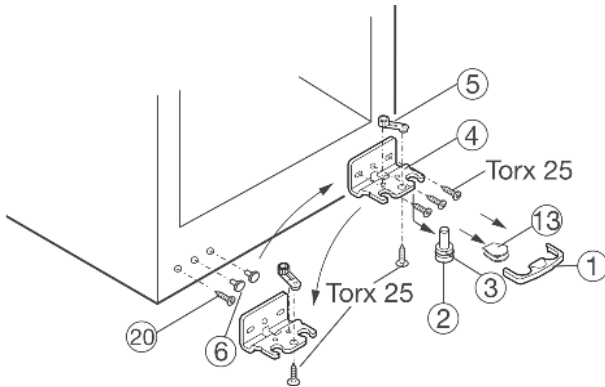

Fig. 4
- ▶ Draw safety lock Fig. 4 (1) forwards for removal.
- ▶ Remove the cover Fig. 4 (13).*
- ▶ Pull out the bearing pin Fig. 4 (2) downwards and forwards. In so doing, pay attention to the hinge bush Fig. 4 (3).
- ▶ Unscrew the turn hinge Fig. 4 (4).
- ▶ Unscrew the bearing part Fig. 4 (5), transfer it to the opposite hole in the turn hinge and screw it down again.
- ▶ Carefully lift out the plugs Fig. 4 (6) and insert them into the opposite side.
- ▶ Unscrew the screw Fig. 4 (20) and insert it into the opposite side.
- ▶ Screw the bearing bracket Fig. 4 (4) onto the new hinge side **tightly (4 Nm)** or retighten with the aid of a cordless screwdriver if necessary.
- ▶ Slightly tip the appliance backwards again and reinsert the bearing pin Fig. 4 (2) together with the hinge bush Fig. 4 (3). The notch on the bearing pin must face forward.
- ▶ Place the cover Fig. 4 (13) on the opposite side.*
- ▶ The safety lock (1) has to engage with the turn hinge at the side so that the bearing pin and therefore the door are secured.
- ▶ Snap the safety lock (1) onto the turn hinge again.
- ▶ If necessary, align the door to the appliance housing by way of the two oblong holes in the turn hinge Fig. 4 (4). To do so, unscrew the middle screw.